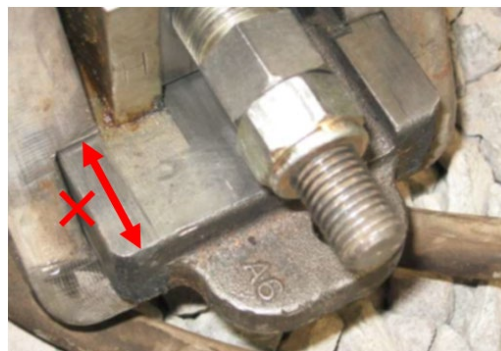

Figure 16 – X = 25mm – 30mm (Mk 2 Only)
20.10 With switch rail bracket in the closed position check the drive lock slide 'fully locked' position. See figure 16.